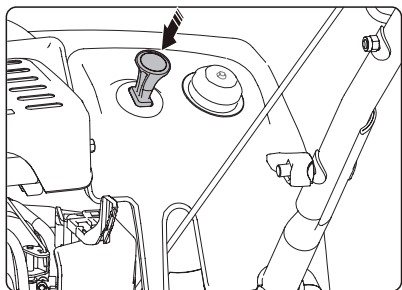

Fig 7
3. Insert the ON/OFF key. (Fig 7)